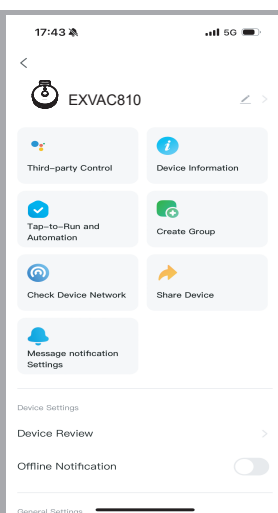

Fig. 19
F). Click the icon  on the main interface and enter Fig.19, users can perform more about EXVAC810, such as connecting to the third party (Google assistant, Alexa etc), share device or update the firmware, etc.